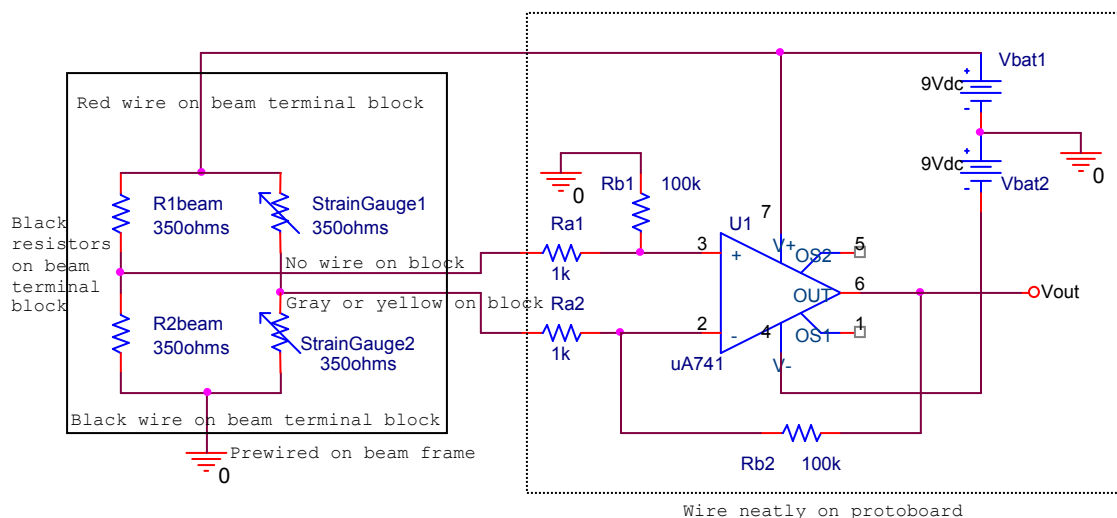

Figure B-3.
- B.2 Wire the circuit shown in Figure B-3.
- If the voltage has increased, swap the two wires connected to Ra1 and Ra2 of Figure B-3.